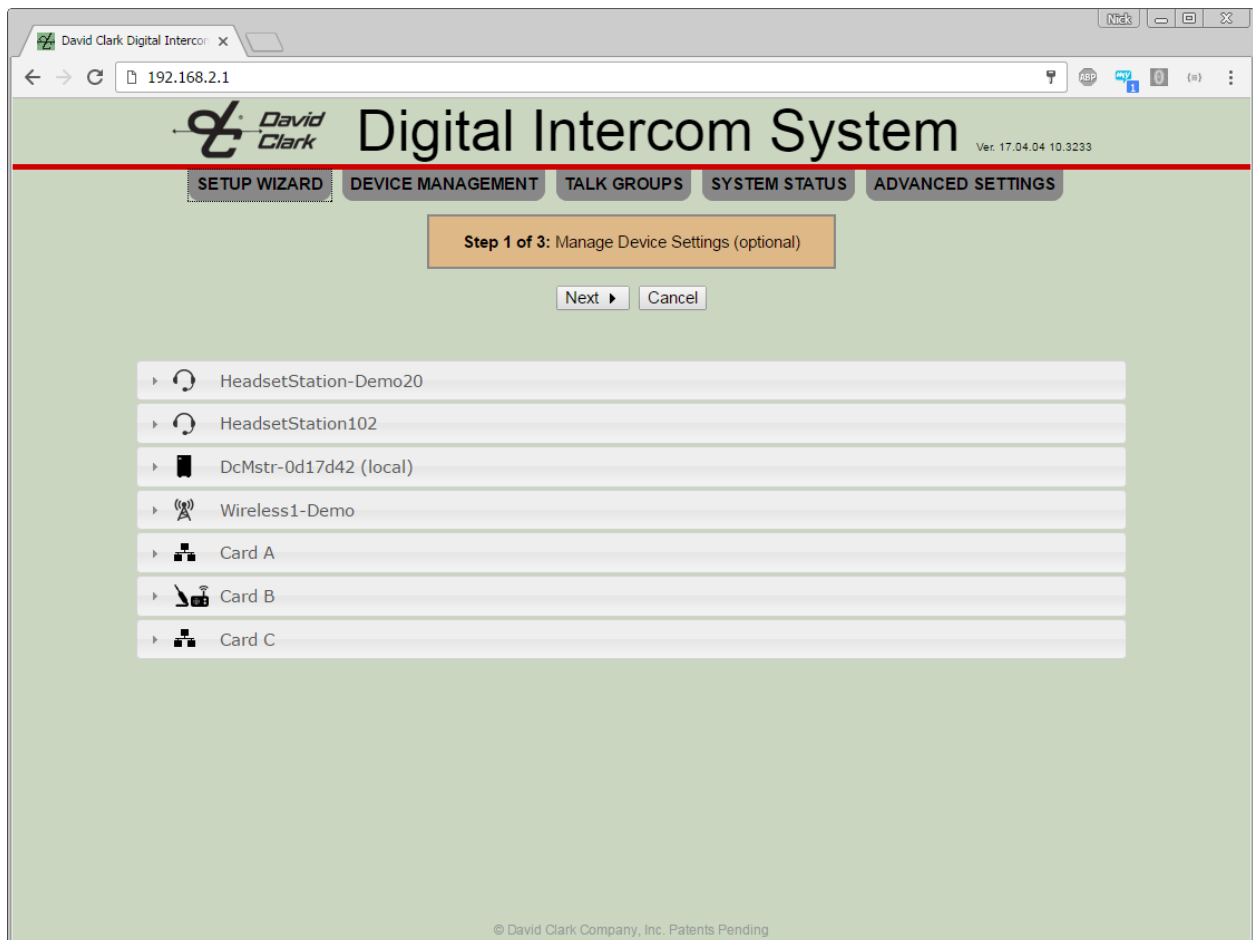

Figure 8.5
7. Once loaded, click SETUP WIZARD. See **Figure 8.5**